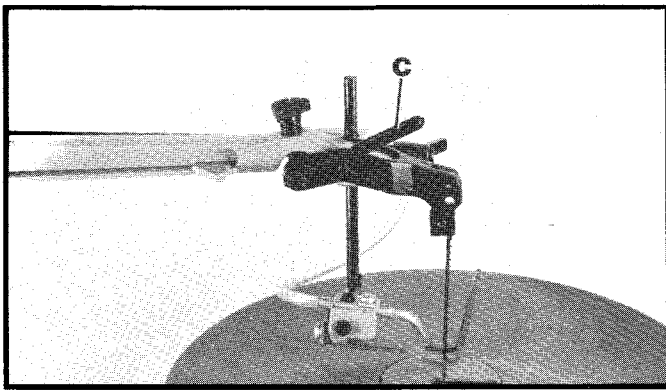

Fig. 41
3. Release blade tension by pulling tension lever (C) Fig. 41, forward as shown.